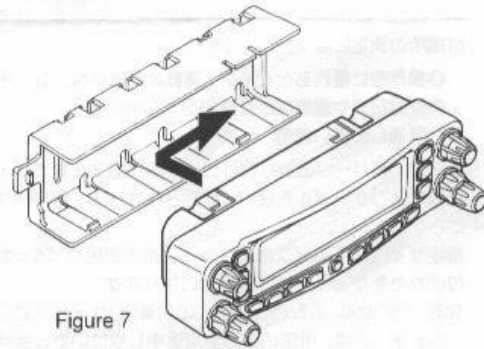

Figure 7
7. To install the Front Panel into the Mounting Nest, align the mounting lugs on the left side of the Mounting Nest with the corresponding slots in the Front Panel, then insert the Front Panel into the Mounting Nest, as shown in Figure 7.